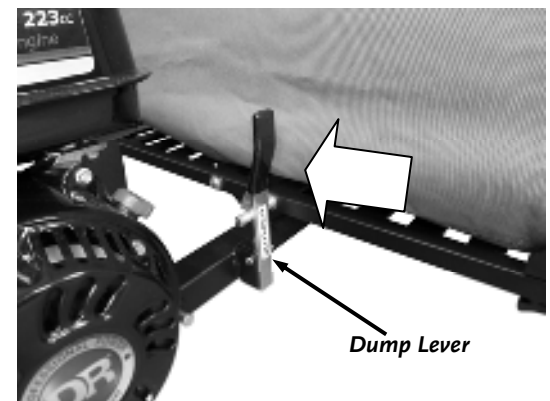
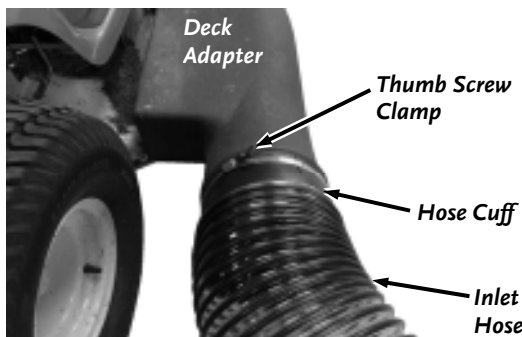
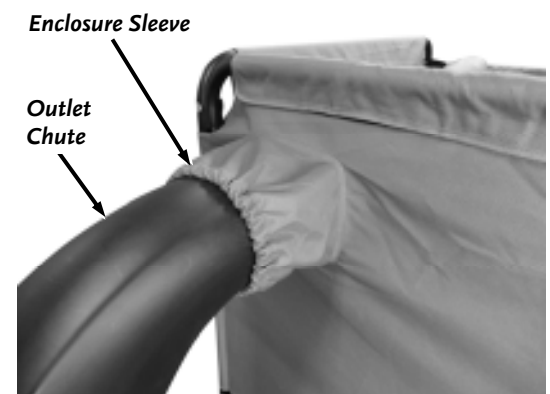

Figure 65
Figure 67
Figure 66
3. Make sure the Collector Base is on the Frame with the Dump Lever locked over the Latch Pin (**Figure 65**), the Enclosure Sleeve is over the Outlet Chute (**Figure 66**), and the Inlet Hose Cuff is securely attached to the Deck Adapter on your Tractor (**Figure 67**).